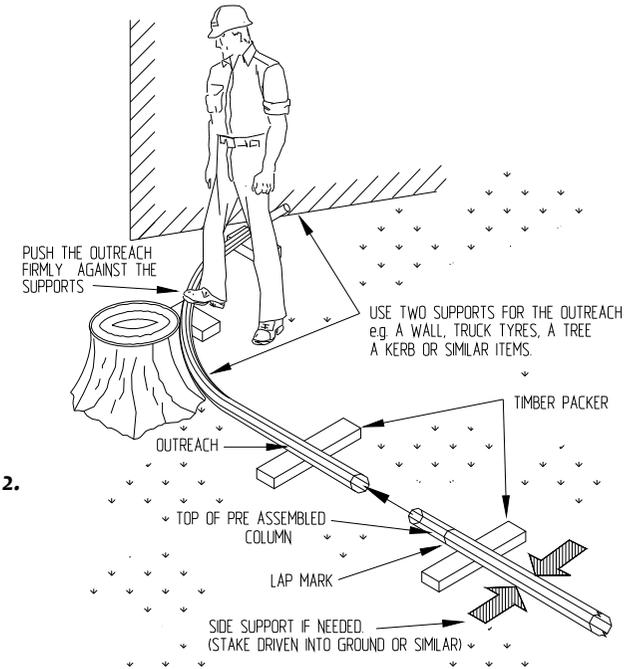

Figure 2.
- VI) Place the outreach against a firm supports as shown in **Figure 2**. Advance it to the top section and engage the two ends together as far as is possible ensuring that the column and the outreach are aligned straight. Support the column on timber bearers.
- VII) Hammer the bottom of the column using a timber packer. Push the outreach firmly against the supports (**Fig. 2**) and hold it like that. This is to prevent any movement of the outreach during hammering of the sections on it.